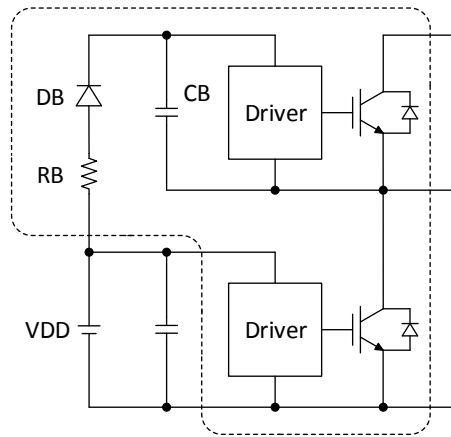

Figure 16. Boot Strap Circuit
**VB1, VB2, VB3** The VBx pins are internally connected to the positive supply of the high-side drivers. The supply needs to be floating and electrically isolated. The boot-strap circuit shown in Figure 16 forms this power supply individually for every phase. Due to integrated boot resistor and diode (RB & DB) only an external boot capacitor (CB) is required.